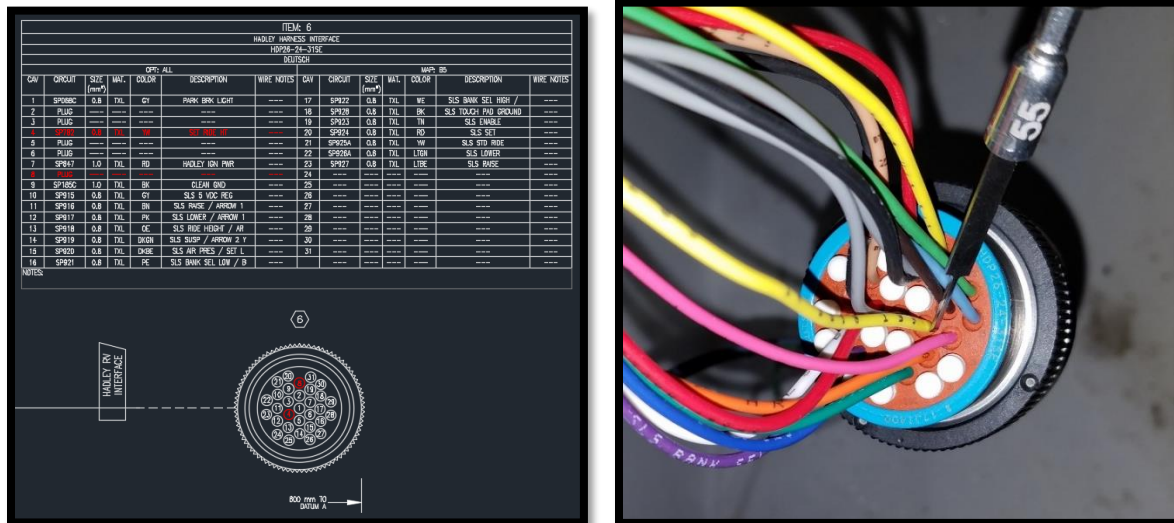

FIG. 4-2
10. Locate Hadley RV Interface (Item #6) on Hadley Interface Harness. Refer to FIG. 4-2, (Harness P/N 3966-GG5-001).